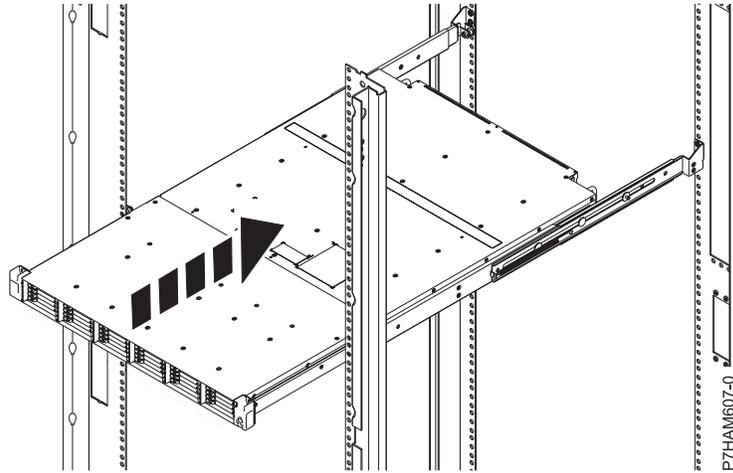

Figure 12. Sliding the disk drive enclosure into the rack
- d. When the chassis bracket guides are firmly seated on both sides of the enclosure, slide the enclosure gently into the rack cabinet, as shown in Figure 12.